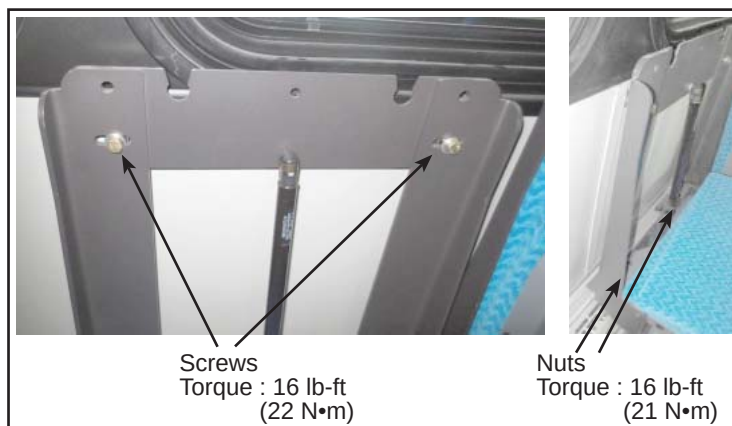

Figure 3 - Hardware to be Removed to Take off the Frame
- 1.5. Remove the frame from the structure. See Figure 3. Retain the hardware.
- 1.7. Install the backrest frame. Use the retained hardware. Apply the specified torque. See Figure 3.